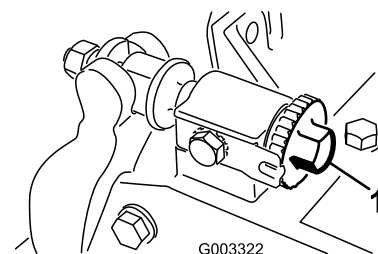

Figure 11
1. Position the cutting unit on a flat, level work surface. Turn the bedbar-adjusting screws counterclockwise to ensure that the bedbar does not contact the reel (Figure 11).
Important: Make sure that the nuts on the back end of the bedbar-adjusting screws are not resting on the work surface (Figure 11).